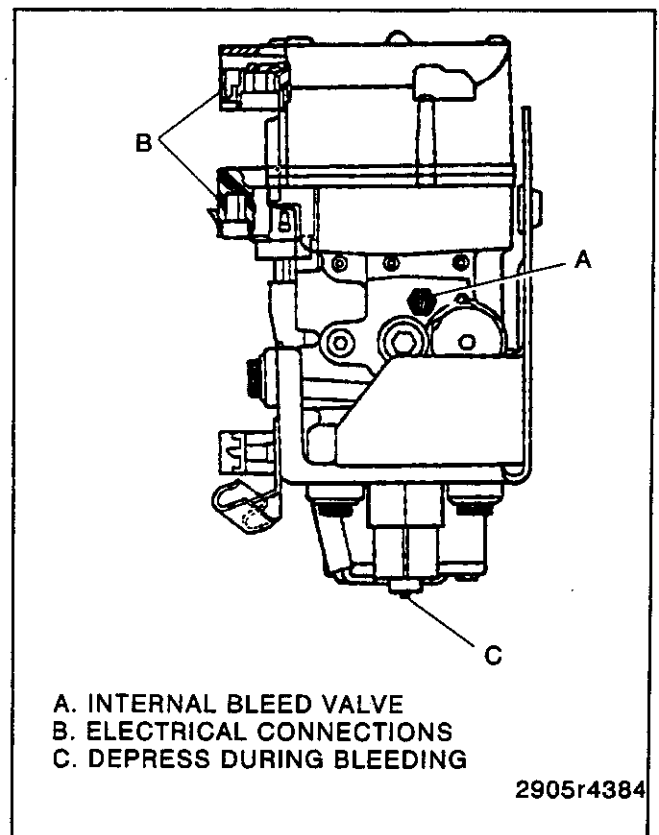

Figure 9—Bleeding the BPMV
The 4WAL brake pressure modulator valve (BPMV) should be bled after replacement or if air is trapped in it. Bleeding should not be necessary if the fluid is not contaminated or no air is in the BPMV. There are internal bleed valves on each side of the BPMV that open internal channels. Open the internal bleed valves (item A, figure 9) 1/4 to 1/2 turn before bleeding. Should the module need bleeding, it must be bled after the master cylinder and before the wheel cylinders and calipers.
1. Open the internal bleed valves on the sides of the BPMV 1/4 to 1/2 turn each (A).
2. Install J 39177 on the left high pressure accumulator bleed stem (C) of the BPMV (figure 9).
3. Install J 39177 on the right high pressure accumulator bleed stem (C) of the BPMV (figure 9).